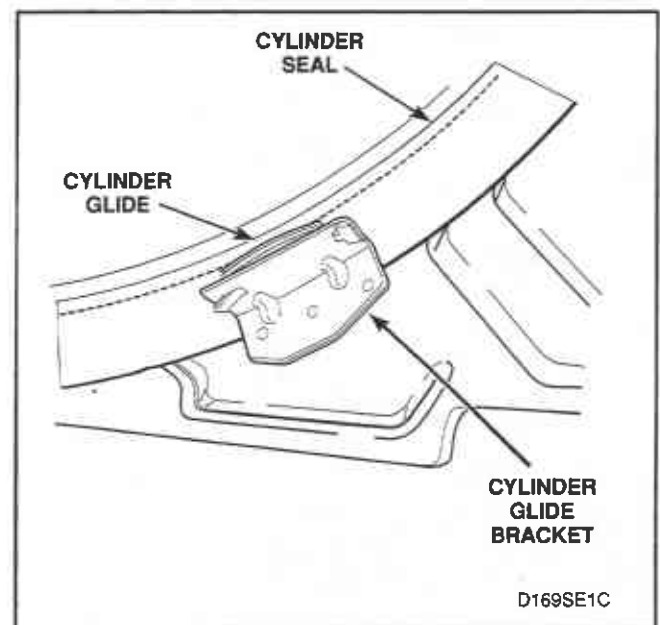

Figure 34
- Cylinder Glides and Glide Bracket** (Refer to *Figure 34*.)
- Front Cylinder Seal** (*Figure 34*)